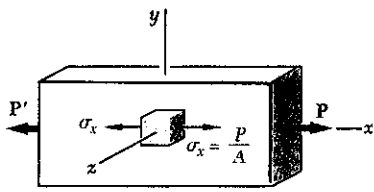

Fig 1.40 (a)
2.74 For a member under axial loading, express the normal strain ϵ' in a direction forming an angle of 45° with the axis of the load in terms of the axial strain ϵ_x by (a) comparing the hypotenuses of the triangles shown in Fig. 2.54, which represent respectively an element before and after deformation, (b) using the values of the corresponding stresses σ' and σ_x shown in Fig. 1.40, and the generalized Hooke's law.